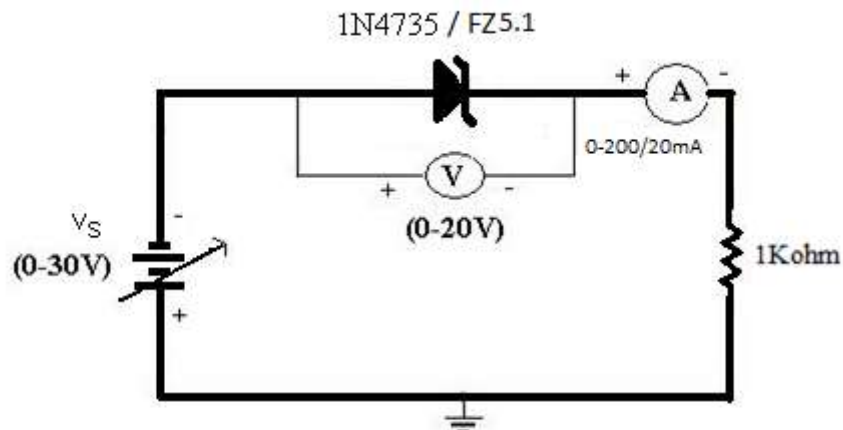

Fig. 2: Reverse Bias Condition
1. Connect the Zener diode in reverse bias as shown in the fig.2. Vary the voltage across the diode in steps of 1V from 0 V to 6 V and in steps 0.1 V till its breakdown voltage is reached. In each step note the current flowing through the diode